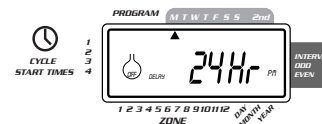

FIGURE 15: Display Showing Rain Delay
- To cancel the rain delay mode, press **CLEAR** [See Figure 15].